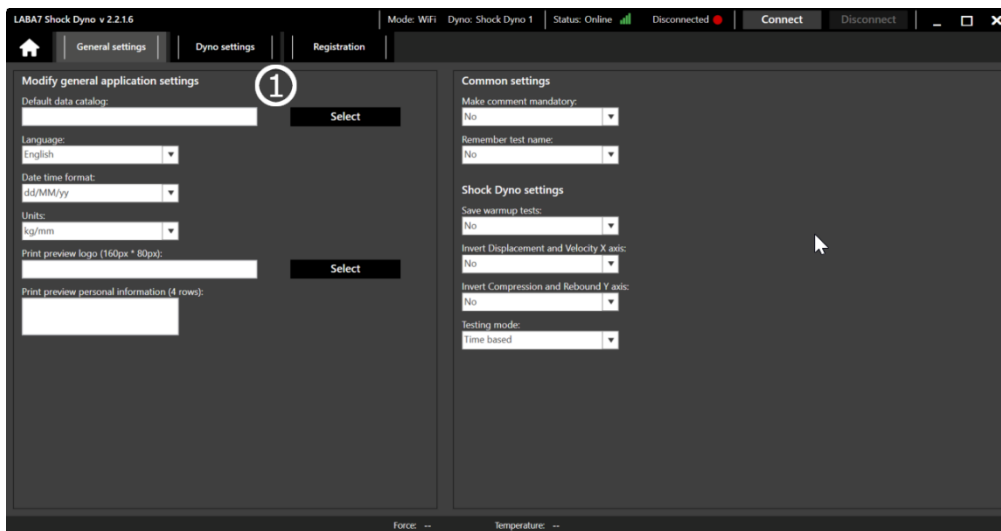

Figure 13
6. Select the default data catalog, this is the catalog, where all of your test project files will be saved. (Figure 13 – Step 1).